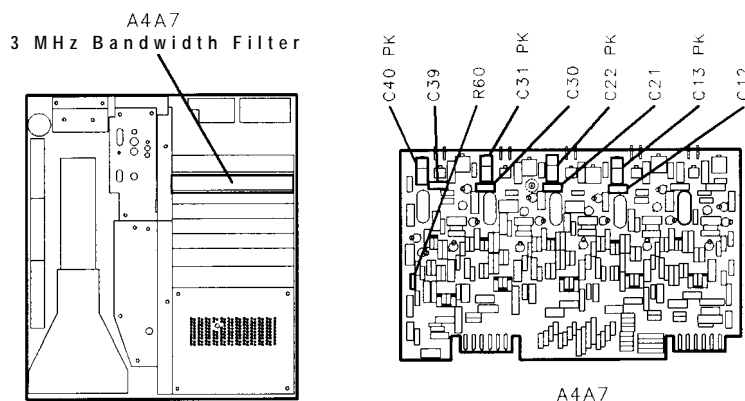

Figure 3-39. Location of 3 MHz Peak Adjustments
- Adjust A4A7C13 PK for maximum peak-to-peak signal on Channel 2 display. See Figure 3-39 for location of adjustment. If unable to achieve a “peak” in signal amplitude, increase or decrease value of A4A7C12. Refer to Table 3-3 for range of values.
- Adjust A4A7C22 PK for maximum peak-to-peak signal on Channel 2 display. See Figure 3-39 for location of adjustment. If unable to achieve a “peak” in signal amplitude, increase or decrease value of A4A7C21. Refer to Table 3-3 for range of values.
- Adjust A4A7C31 PK for maximum peak-to-peak signal on Channel 2 display. See Figure 3-39 for location of adjustment. If unable to achieve a “peak” in signal amplitude, increase or decrease value of A4A7C30. Refer to Table 3-3 for range of values.
- Adjust A4A7C40 PK for maximum signal amplitude on the CRT display. See Figure 3-39 for the location of adjustment. If unable to achieve a “peak” in signal amplitude, increase or decrease value of A4A7C39. Refer to Table 3-3 for range of values.